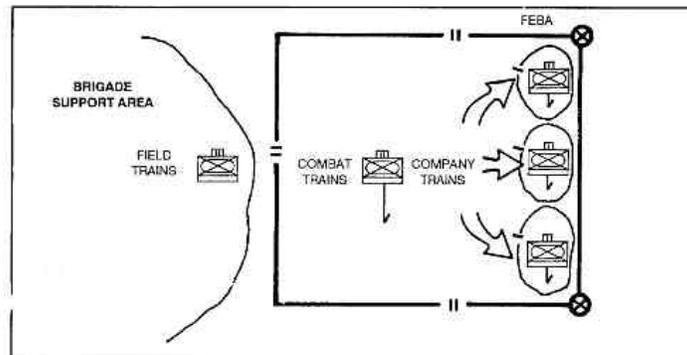

Figure 9-1. Field trains, combat trains, and company trains.
The field trains are where most of the battalion's bulk-loaded ammunition, fuel, food, and other supplies are kept until delivered forward by LOGPAC (Figure 9-1).
Combat trains consist of the battalion S1, S4, the battalion aid station, some maintenance personnel and equipment, and some support platoon trucks loaded with fuel and ammunition (Figure 9-1).
b. The company trains are normally located between 1/2 and 1 km or one prominent terrain feature behind the company/team in a covered and concealed position (Figure 9-1). During MOUT, they may be as close as one block behind the forward positions.